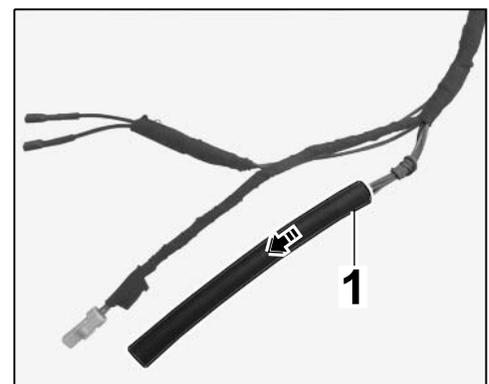

Figure 12
- 4.5.1 Pull off protective tube ⇒ *Figure 12-1-* (⇒ *Figure 12-arrow-*).